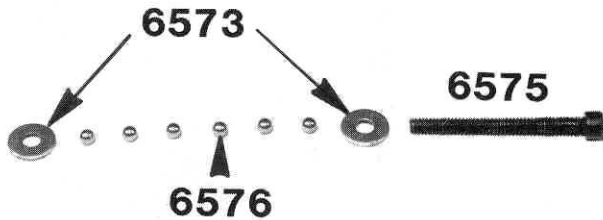

Fig. 35
□ **Fig. 35** Still using bag A take out the #6575 diff thrust bolt, the two #6573 diff thrust washers, and the six #6576 5/64" precision thrust balls.